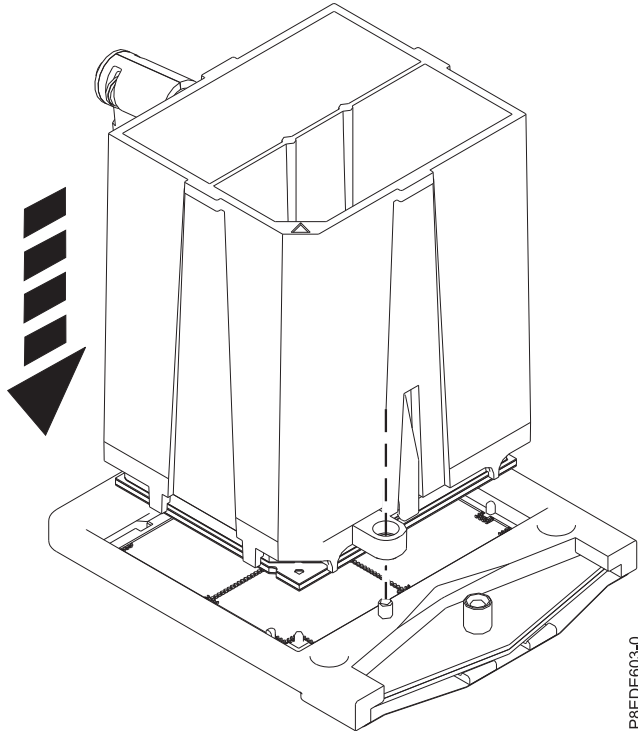

Figure 17. Lowering the system processor module onto the socket
- e. Lower the tool and system processor module onto the socket in the replacement system backplane. Ensure that the two guide pins are inserted into the alignment holes on each side of the tool, as shown in Figure 17 on page 19.